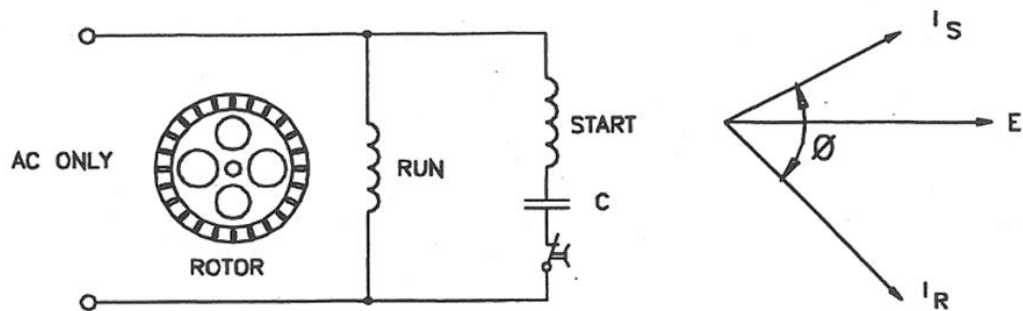

Figure 9 - Phase relationships in a typical capacitor start motor
27. The starting torque of a split phase type motor can be improved by increasing the phase angle between the run winding current and the start winding current. This can be achieved by connecting a suitable capacitor in series with the START winding - the motor is then known as a capacitor start motor. A circuit diagram of the connections and a phasor diagram of the relationship between the currents in a typical capacitor start motor is shown in Figure 9.